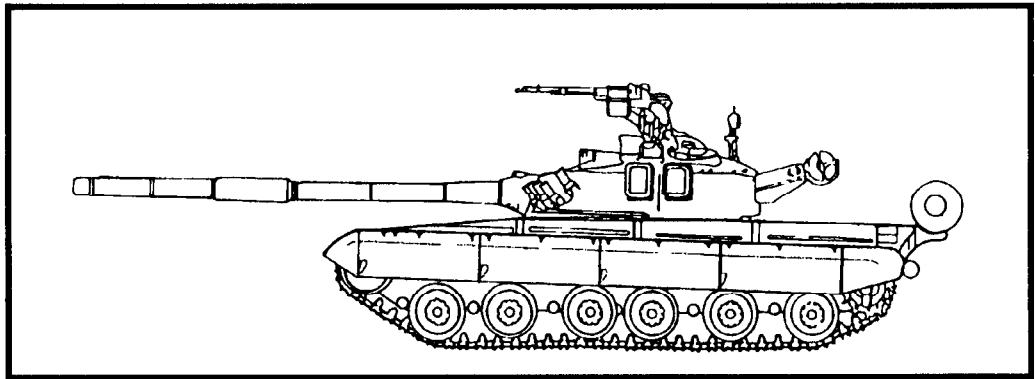

Figure F-4. T-80.
(4) *T-80* (Figure F-4). The most recent series-produced Russian tank, the T-80 has some features of both the T-64 and T-72, and other features unique to itself. Visual keys are rubber-tired road wheels, a self-entrenching blade on the lower glacis, a large left-hand optic, and smoke grenade launchers on the rear of the turret sides. Significant differences are the ability to fire the AT-8 Songster through the gun barrel (like the T-64B), improved mobility through a 1,000 horsepower turbine engine, a probable laser range finder, and probable enhanced armor on the glacis and turret (an upper glacis of steel layers enclosing fiberglass layers and a cast steel turret enclosing nonmetallic materials). In general, the offensive capabilities of the T-80 are similar to the T-64B, but it is faster and better protected.